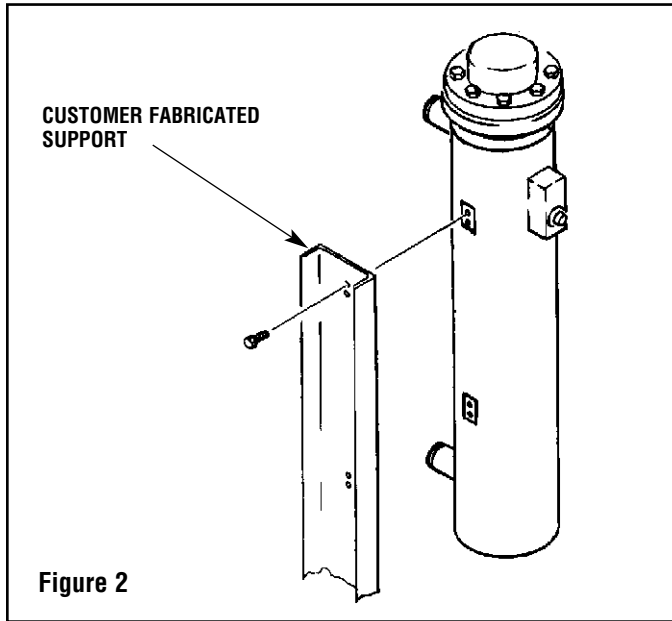

Figure 2
1. Mounting lugs with tapped holes are located on the side of the vessel for bolting the heater to structural members or a customer fabricated support system. Heater should not be supported solely by the piping. (See Figure 2.)